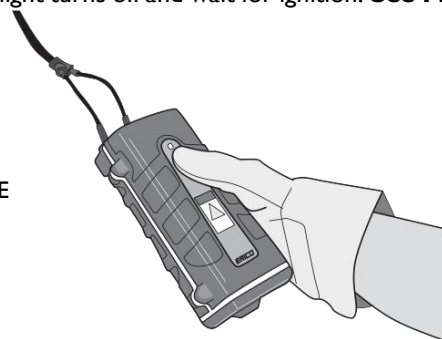

FIGURE 12
4. Position yourself upwind of the mold, on the field side of the rail. Press and hold Control Unit operator button until the ready light turns off and wait for ignition. See Figure 12.